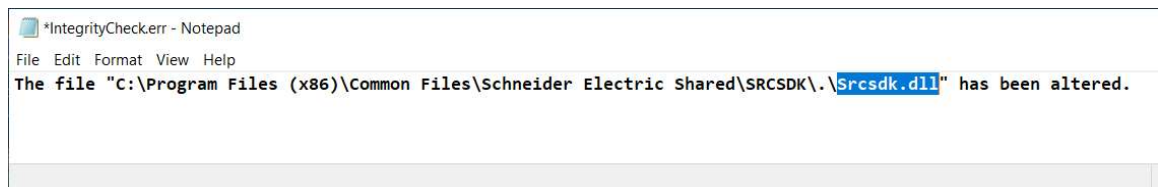

Figure 12 - 'IntegrityCheck.err' log file viewed with Notepad.
- Examine the log (See Figure 12.) to determine what file is causing the integrity check error.